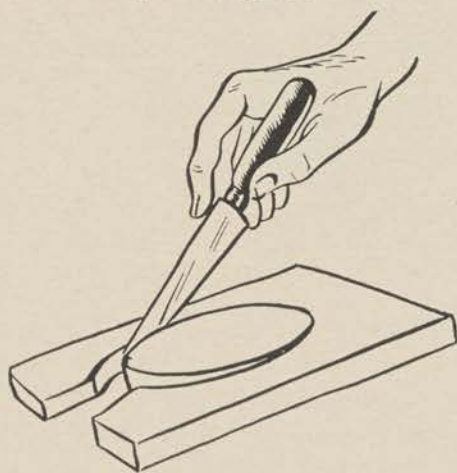

Figure 115.
b. The next step is to build the base. Roll out a large slab of clay about $\frac{1}{2}$ inch thick and cut the base out of this (fig. 115). Use a pattern to guide your knife. Roughen the rim of the base by scratching it with any pointed tool. This is known as "checking" or "small cutting" and is done to make a firmer joint between bottom and sides.